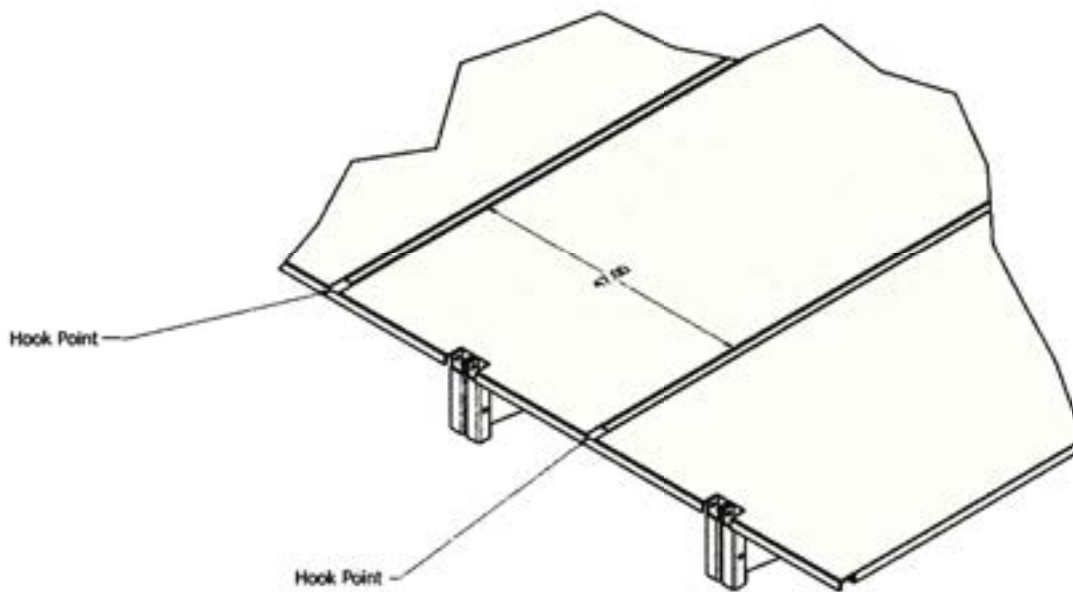

Figure 2.2.1: Tie Down Point configuration
- Ties down points will be located on the sides of the deck and every 4 ft. across the deck as shown in Figure 2.2.1.